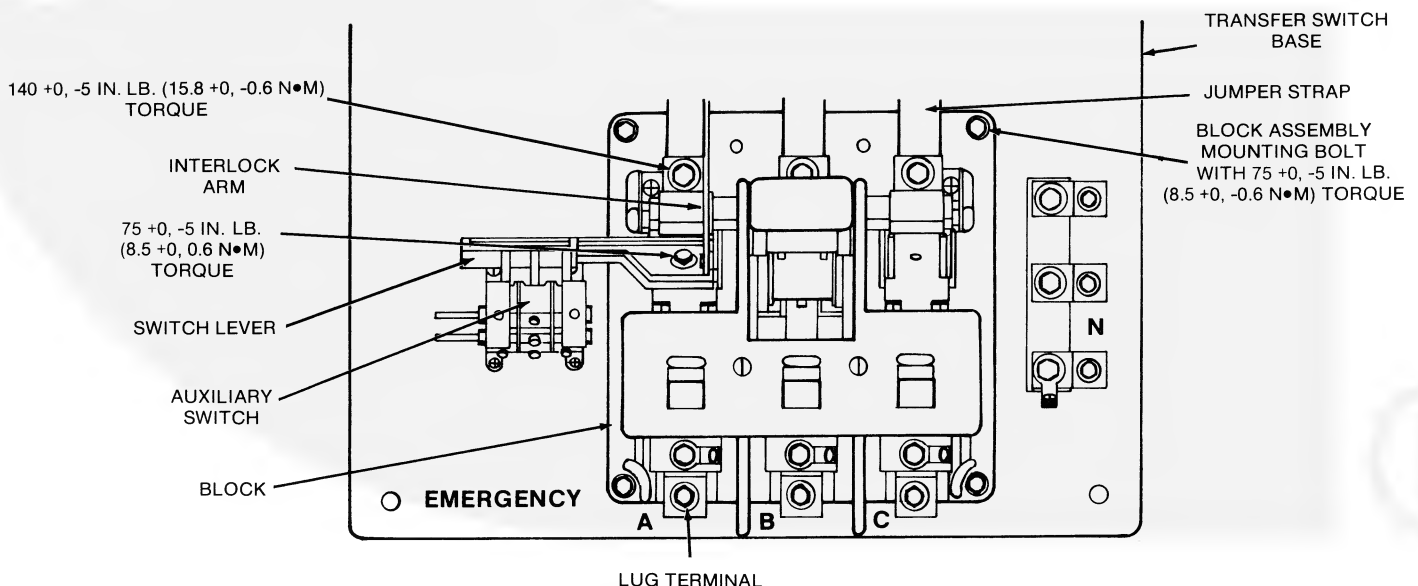

FIGURE 34. TYPICAL 225 AND 280 AMPERE OT TRANSFER SWITCH (CONTACTS COVER REMOVED)
9. Remove the one capscrew from the crossbar assembly so you can remove switch lever and interlock arm from crossbar. See Figure 34.
11. Remove two actuator mounting bolts, lock washers, and actuator spacers from the crossbar mounting block with contacts which will be replaced (Figure 34).
13. Remove the block and crossbar assembly by taking out the four capscrews and lock washers (Figure 34).
16. Mount the new block and crossbar assembly on the transfer switch base using the capscrews and washers from Step 13. Tighten mounting bolts to $75 \pm 0, -5$ in. lb ($8.5 \pm 0, -0.6$ N•m). See Figure 34.